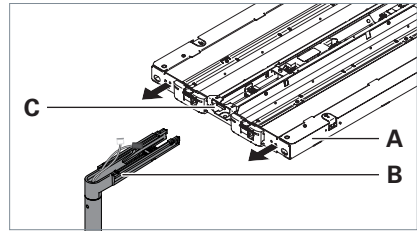

Fig. 2: Mounting the light head on the support arm.
- Slide the light chassis **A** onto the support arm **B** while passing the cables through the opening **C** on the side of the light chassis, see Fig. 2.